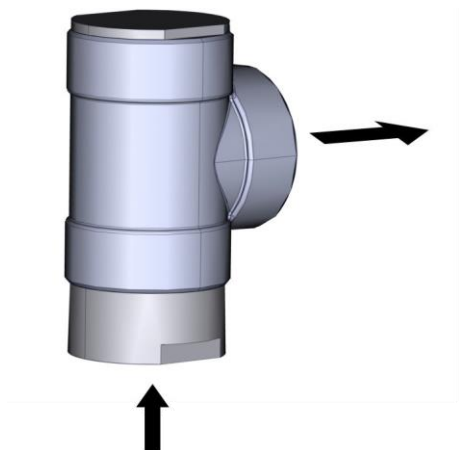

Fig. 57: Direction of flow
3. ➤ Mount the check valve (possibly with adapter) with due consideration of the direction of flow (Fig. 57/ arrows).